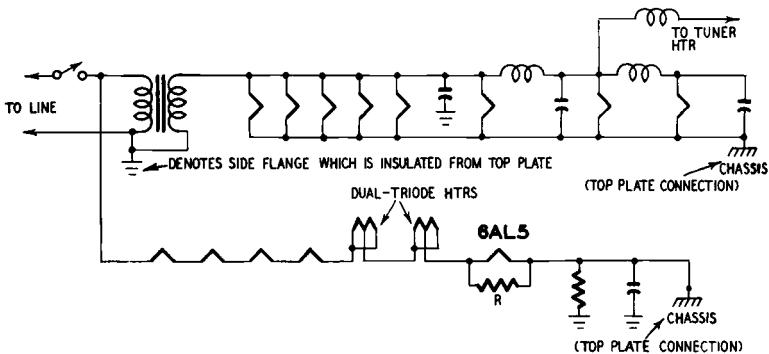

Fig. 212. Series-filament circuit in which a shunt resistor  $R$  is used across one of the tube filaments (6AL5).
possibility of failure of tubes for other reasons is increased as well. If a resistor (R) is in shunt with the tube that has been removed (Fig. 212), the resistor will overheat since an excessive voltage will now be present across it; in a few seconds, it may be permanently damaged.